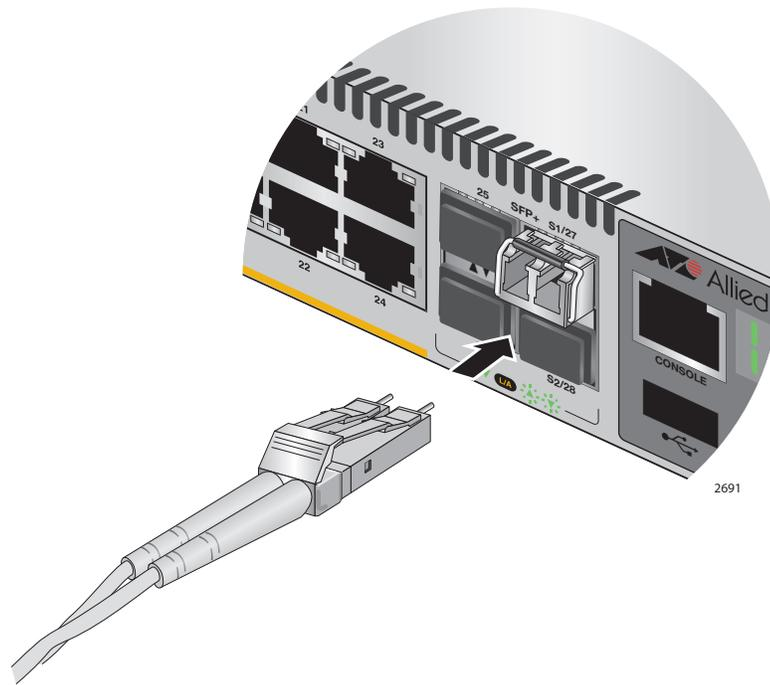

Figure 65. Connecting the Fiber Optic Cable to the Stacking Transceiver
6. Connect the fiber optic cable to the transceiver, as shown in Figure 65 on page 104. The connector on the cable should fit snugly into the port, and the tab should lock the connector into place.